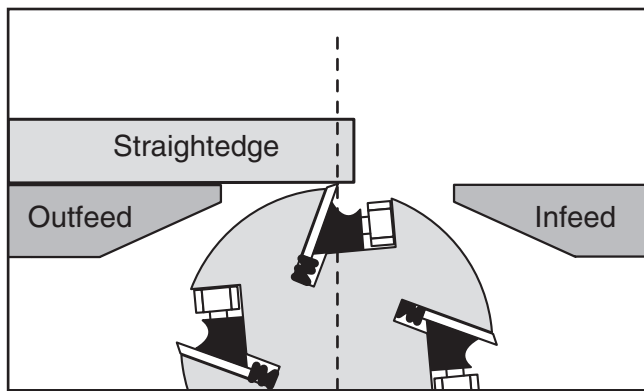

Figure 16. Illustration of a typical cutterhead alignment setup.
3. Rotate the cutterhead under the straightedge, as illustrated in **Figure 16**.